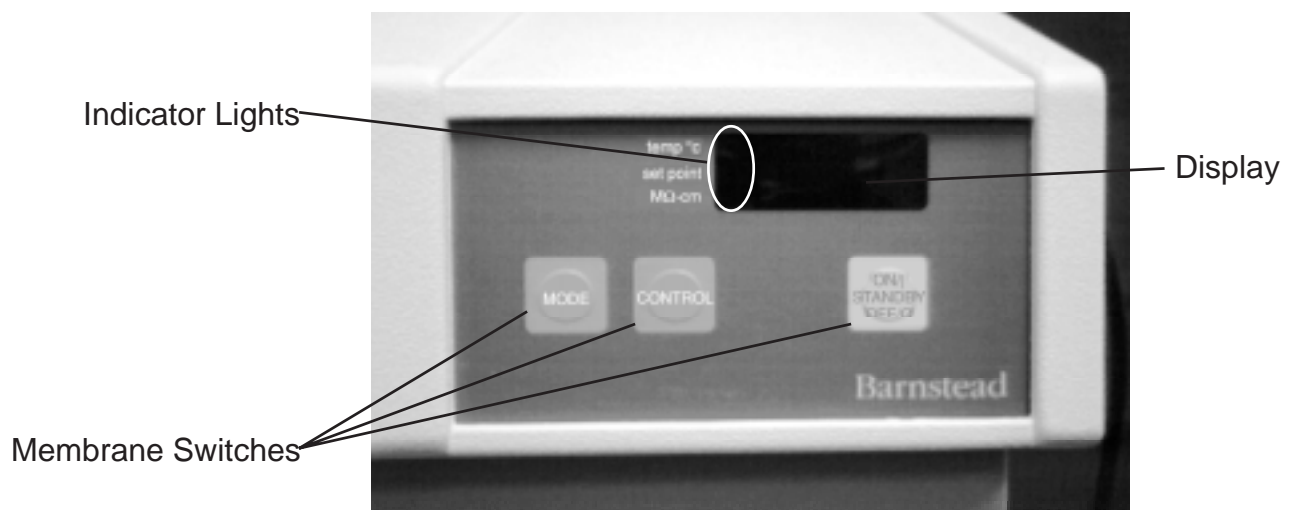

Figure 8 Display Indicators
1. Push the “Mode” membrane switch until the orange light (Figure 8) is lit alongside the set point indicator. The preset set point in the electronics will appear on the display.